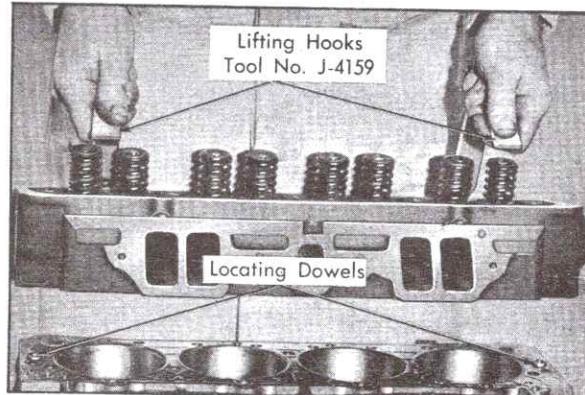

Fig. 6-125 Cylinder Head Removal and Installation
39. Lift cylinder head off dowels and remove from cylinder block, Fig. 6-125.